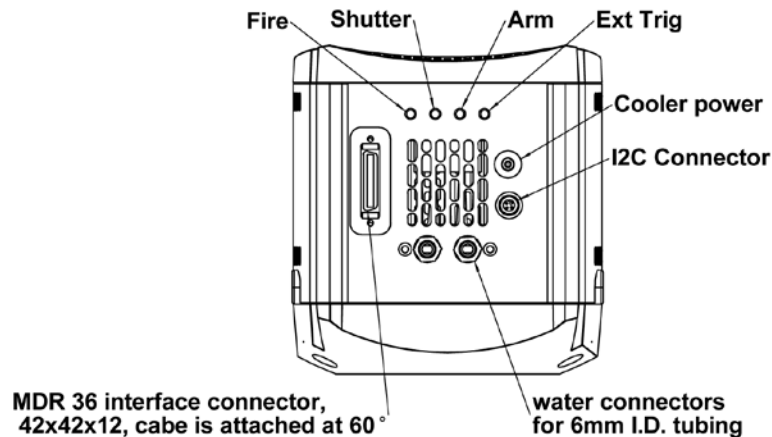

Figure 8: iXon3 connectors
There are six connections points on the iXon3 as shown in **figure 8** above. There are four industry-standard **SMB (Sub Miniature B)** connectors, details as follows:
The connection for the 26 pin interface between the camera and the PCI controller card is made via an MDR 36 connector shown in **figure 8** above.
4. There is only one socket on the camera that the **PSB** can be connected to and this is labeled **Cooler Power** (please see **figure 8** on **page 20**).